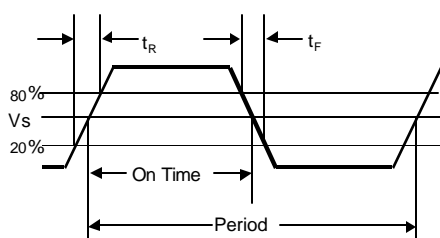

Figure 1. Output Waveform
2. Figure 1 defines these parameters. Figure 2 illustrates the operating conditions under which these parameters are tested and specified.